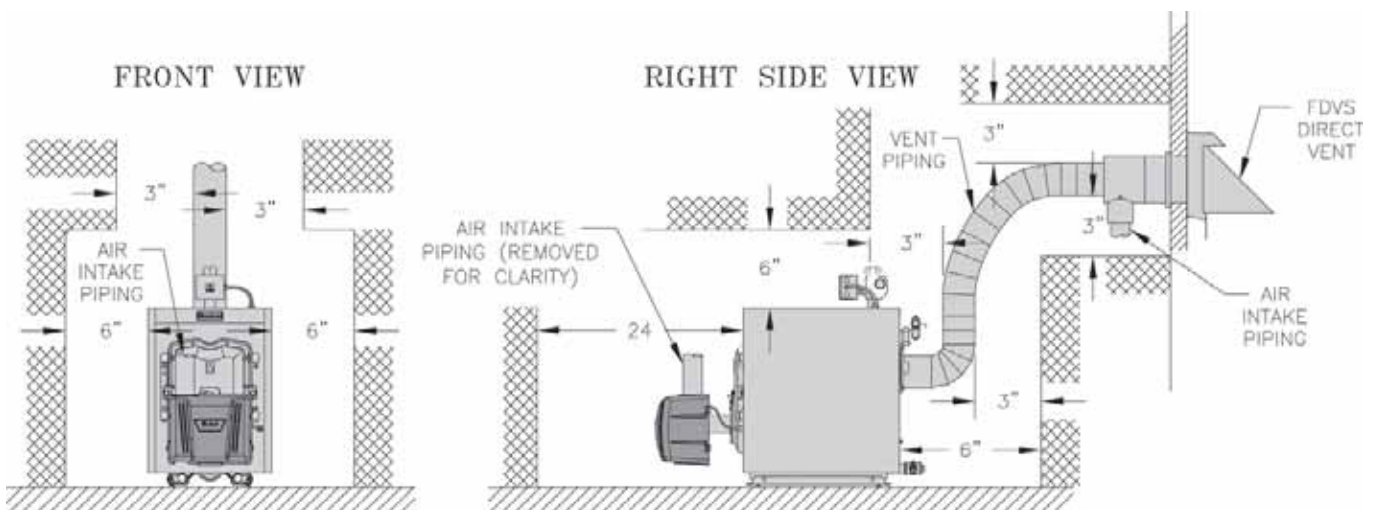

Figure 2B: Direct Vent Minimum Installation Clearances To Combustible Materials (Inches)
- 24" for rear smokebox cleaning and disconnecting vent pipe from appliance adapter for servicing (if required) - **Direct Vent** (see Figure 2B).